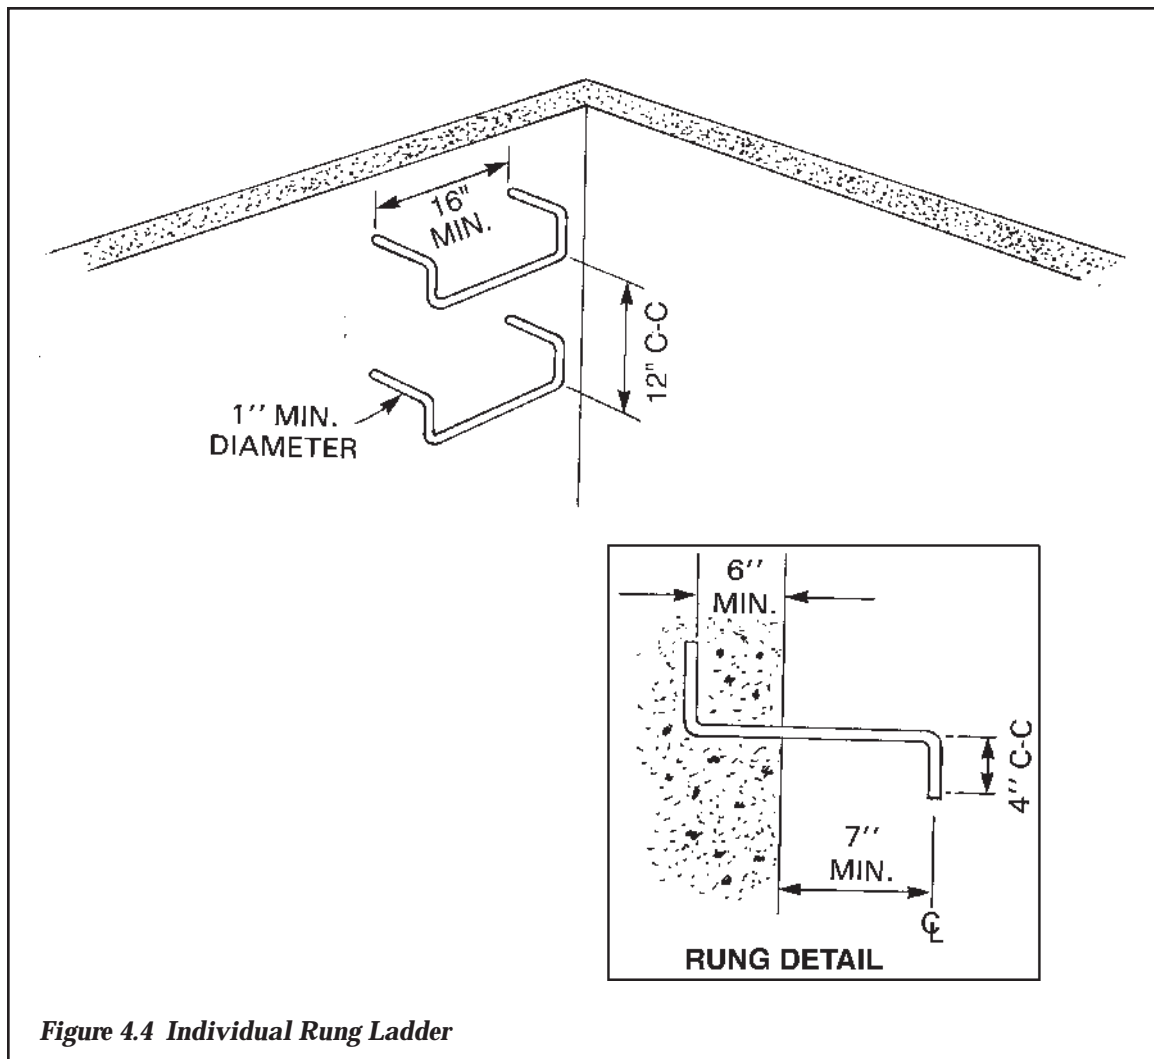

Figure 4.4 Individual Rung Ladder
1. See Chevron Guidelines in Section 4.2 and *Figure 4.4*.